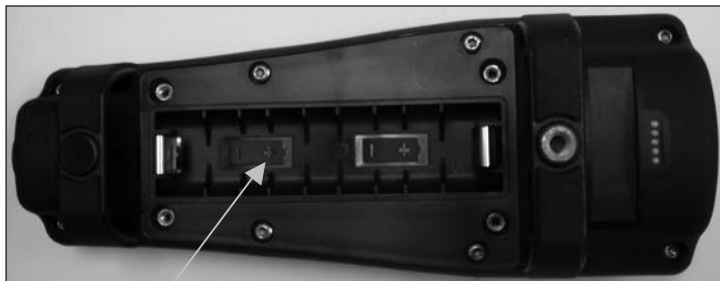

Figure 1. Pro20/Pro20i with battery cover removed.
4. Install the new batteries, ensuring correct polarity alignment (figure 1).